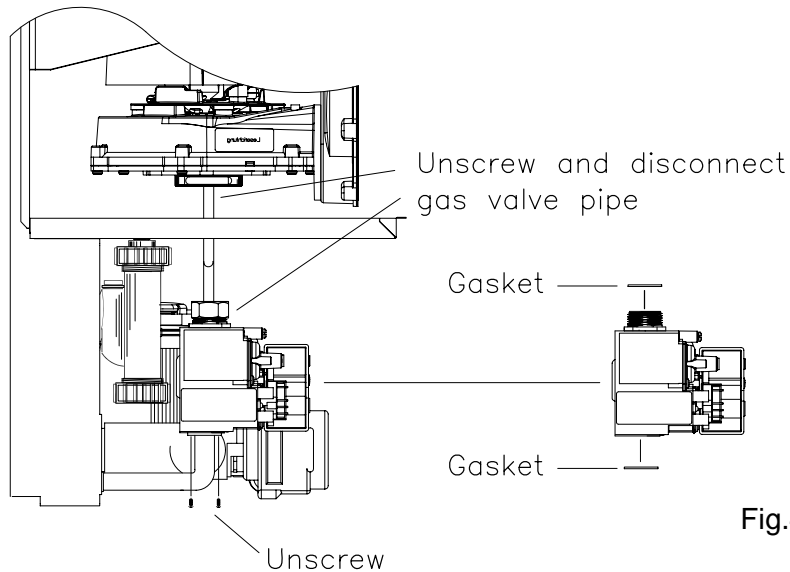

Fig.46
8.7 TO REMOVE/REPLACE GAS VALVE . (Fig.46).
8.7.3 Unscrew and disconnect gas valve pipe (Fig. 46).